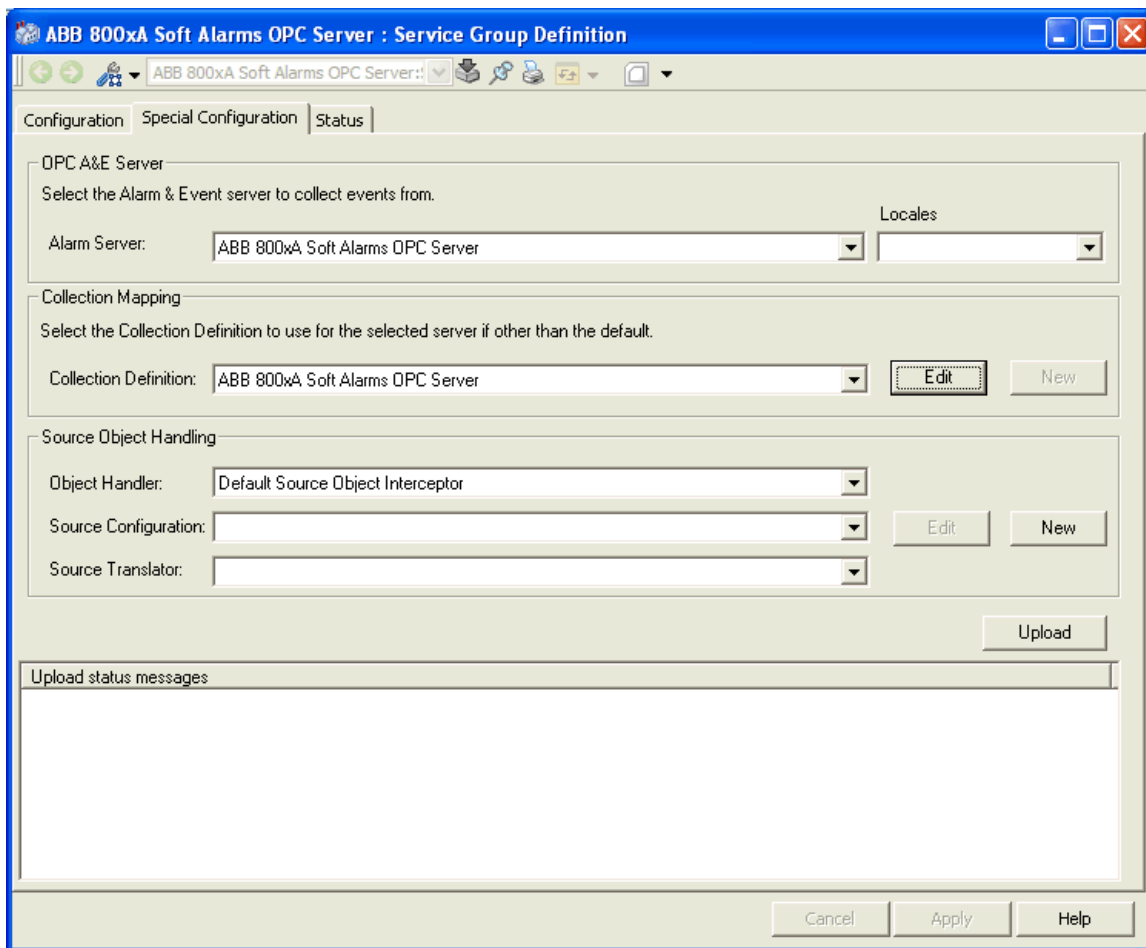

Figure 277. Special Configuration Tab
- a. Select the **Special Configuration** tab of the Event Collector service group. See Figure 277.